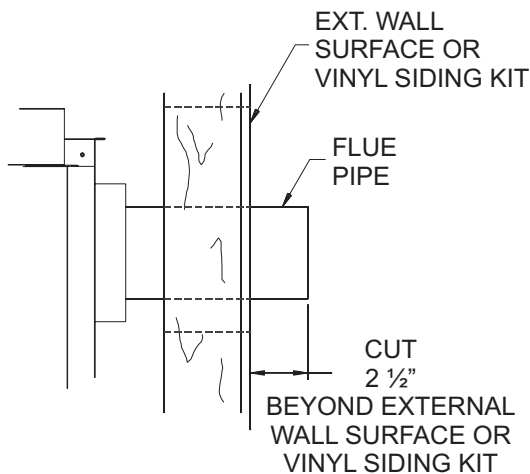
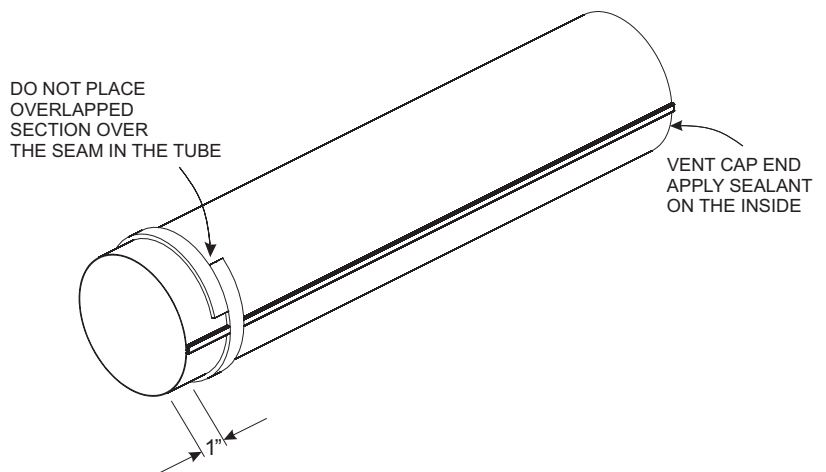

Figure 50
Figure 51
8. Attach the 4" (102 mm) diameter flue outlet tube onto the rigid venting system or directly to fireplace. Ensure the 4" (102 mm) diameter flue outlet tube is placed as far as possible onto the rigid venting system. Mark the 4" (102 mm) diameter flue outlet tube 2 1/2" (64 mm) beyond the vinyl siding kit or wall. See Figure 50. Remove the 4" (102 mm) diameter flue outlet tube from rigid venting system. When installing directly to fireplace, tape gasket needs to be used.
10. From outside: Push the 6 5/8" (168 mm) diameter inlet tube/ mounting plate onto end of rigid venting system to correct position. Fasten the outside mounting plate to the vinyl siding kit or wall with (4) 10 x 1 1/2" screws. (Ensure upward slope).
11. From inside: Attach the inlet tube to the collar on the back of the fireplace (or the rigid venting system) using (3) self tapping screws.
12. Seal the 4" (102 mm) diameter flue outlet tube. Follow instructions and diagram (Figure 51).
14. Fasten vent cap end using (3) 10 x 1/2" screws to mounting plate. **Sealing 4" (102 mm) Diameter Flue Outlet Tube**
If the air inlet and flue outlet tubes are to be connected directly to the unit (no rigid venting system is being used), then the gasket provided must be used to seal the 4" (102 mm) flue outlet tube. Peel the paper off the self-adhesive gasket and then wrap it around the end of the tube (if tube was cut, it is recommended to use cut end) as shown in Figure 51. Pull the gasket tight at all times while wrapping it around tube. The gasket ends should align, to form a complete seal. The overlapped section should NOT come in contact with the seam in the tube. Apply high temperature sealant to the opposite end of the tube (on the inside of the tube). The end with the gasket will attach to the back of the unit. Continue with Step 13.